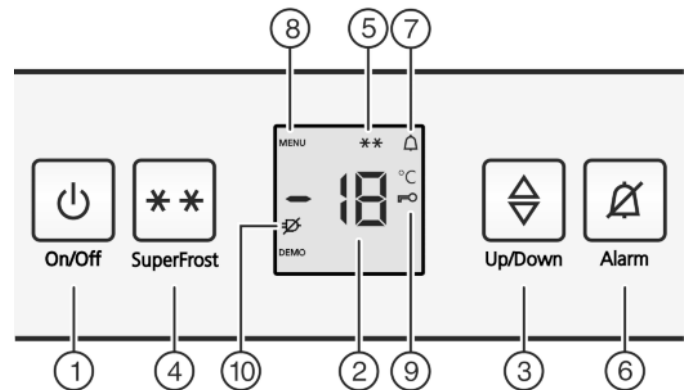

Fig. 2
- ▶ Press the On/Off button Fig. 2 (1).
- ▶ Activate setting mode: press the SuperFrost button *Fig. 2 (4)* for approx. 5 seconds.
- ▷ The Menu symbol *Fig. 2 (8)* is shown on the display.
- ▶ Briefly confirm with the SuperFrost button, *Fig. 2 (4)*.
- ▷ The child lock symbol *Fig. 2 (9)*, lights up on the display.
- ▶ Briefly press the On/Off button *Fig. 2 (1)*.
- ▷ The child lock symbol *Fig. 2 (9)* goes out.
- ▶ Press alarm button *Fig. 2 (6)*.
The temperature display and the alarm symbol *Fig. 2 (7)* flash at the same time.
The audible alarm is automatically silenced, the alarm symbol *Fig. 2 (7)* goes out and the temperature display stops flashing when the temperature is sufficiently cold again.